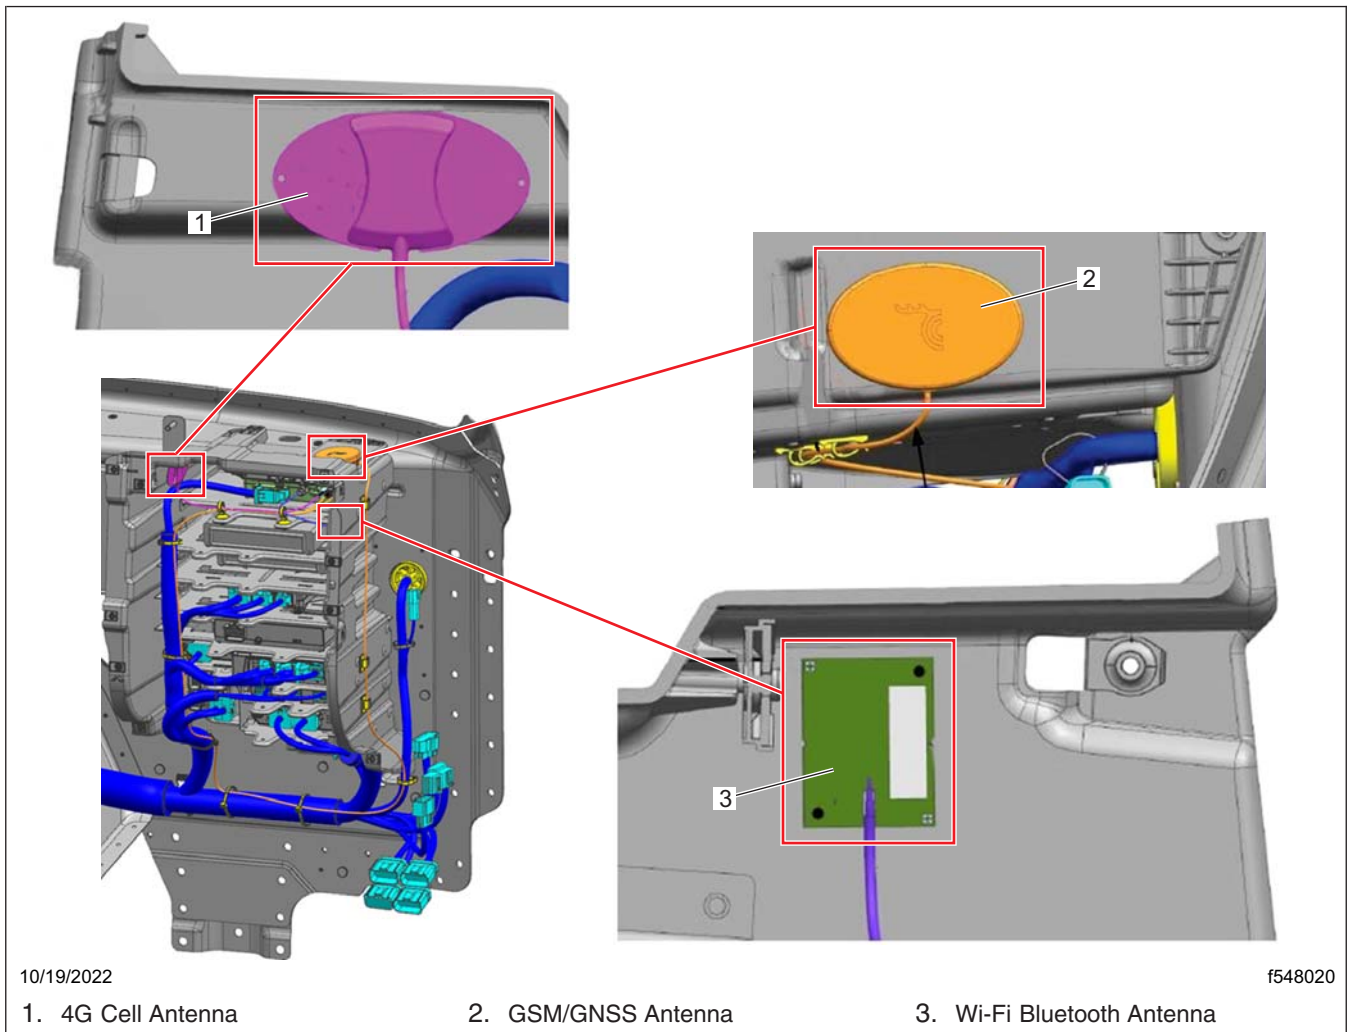

Fig. 4, Antenna Mounting
- 11.2 Route the 4G antenna cable, as shown in Fig. 4.
- 11.3 Mounting location of the 4G antenna is identified in Fig. 4.